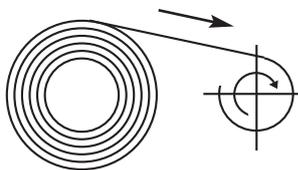
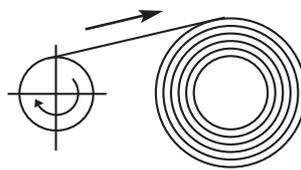

Figure 1
Figure 2
2. Rewind the spring by rolling the large diameter (Fig. 1) to become the small diameter (see Fig. 2 and 3)